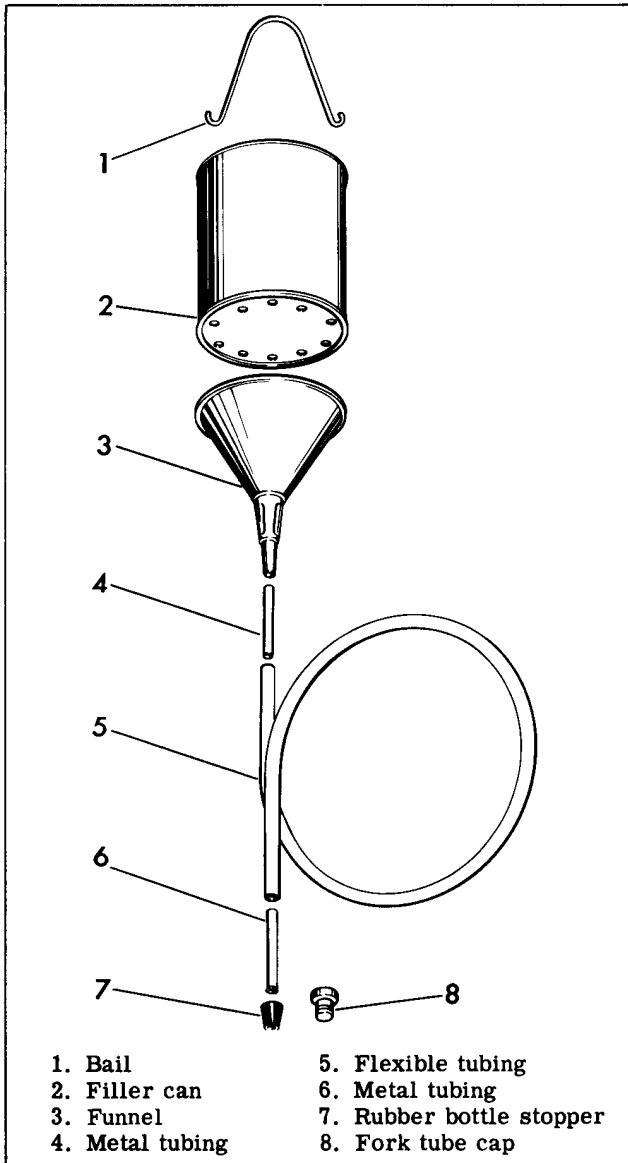

Figure 2-34A. Fork Filler Can Components - Exploded View
1. To make a filler can, see Figure 2-34A, and proceed as follows. Drill a dozen 1/4 in. holes in the bottom of a one quart tin can (2), near the outside edge. Then, shape the bottom of the can with a light hammer so that it is dished upward to assure complete draining of oil through the holes.
2. Select a tin funnel (3) with the funnel mouth about the same size as the bottom of can (2). Swage and shape the funnel spout, so that a piece of 1/4 in. metal tubing (4), about 2 in. long (a piece of fuel line is suitable), can be soldered into it. Solder (3) into the bottom of (2). Improve and attach bail (1) to the filler can.
3. Make plug (7) from a rubber bottle stopper purchased from a drug store. Rubber stopper should be 1 in. to 1-3/8 in. long, and its largest diameter about 5/8 in.
4. Hold rubber stopper in vise and drill a 3/32 in. hole lengthwise through the center. Then enlarge the hole with a 1/4 in. drill. After hole is drilled in the stopper, insert a 1/4 in. rod (6) through the hole and grind the stopper to a 5/8 in. diameter at the large end, and slightly under 1/2 in. diameter at the small end, straight taper between ends to form the plug.
5. Slightly flare one end of a piece of 1/4 in. tubing (6), about 2 in. long, and insert into plug (7). Make an adapter (8) from an old fork tube cap. Break three stake locks securing breather valve and remove valve from cap. Drill a 1/2 in. hole through cap and plug the vent hole. Assemble adapter (8) to top of fork and insert rubber plug (7) into the adapter hole. Attach filler can to stopper with transparent flexible tubing (5) about 2 feet long.